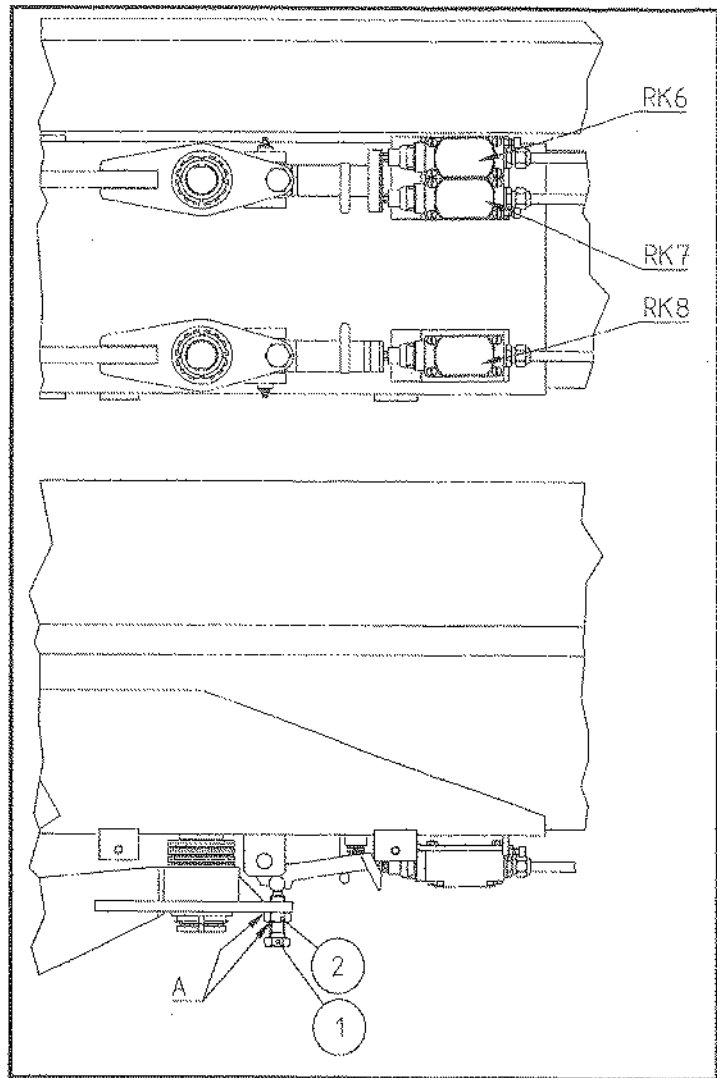

Figure 31-2
7. Loosen locking nut 2 of adjusting screw 1 and tighten adjusting screw 1 slightly (figure 31-2).
12. After adjustment, lock the adjusting screw with locking nut 2 and seal points A (figure 31-2). Check both the reach of the telescope and the lifting radius in accordance with instructions 9.5.1 and 9.5.2.
7. Measure the distance from the gate side of the platform to the tipping centre. If the distance is more than 8800mm, retract the telescope fully and loosen locking nut 2 of adjusting screw 1 and tighten adjusting screw 1 (figure 31-2).
9. Retract the telescope fully and raise the booms to an angle of 30°, and extend the telescope in a continuous movement until load control stops the movement. Then measure distance from the platform edge to the tipping centre. The measurement must be 8800mm \pm 50mm / -100mm (figure 31-3). If the lifting radius is exceeded, tighten adjusting screw 1 (figure 31-2).
10. After adjustment, check the measurement is accordance with item 9.
16. Seal points A (figure 31-2)